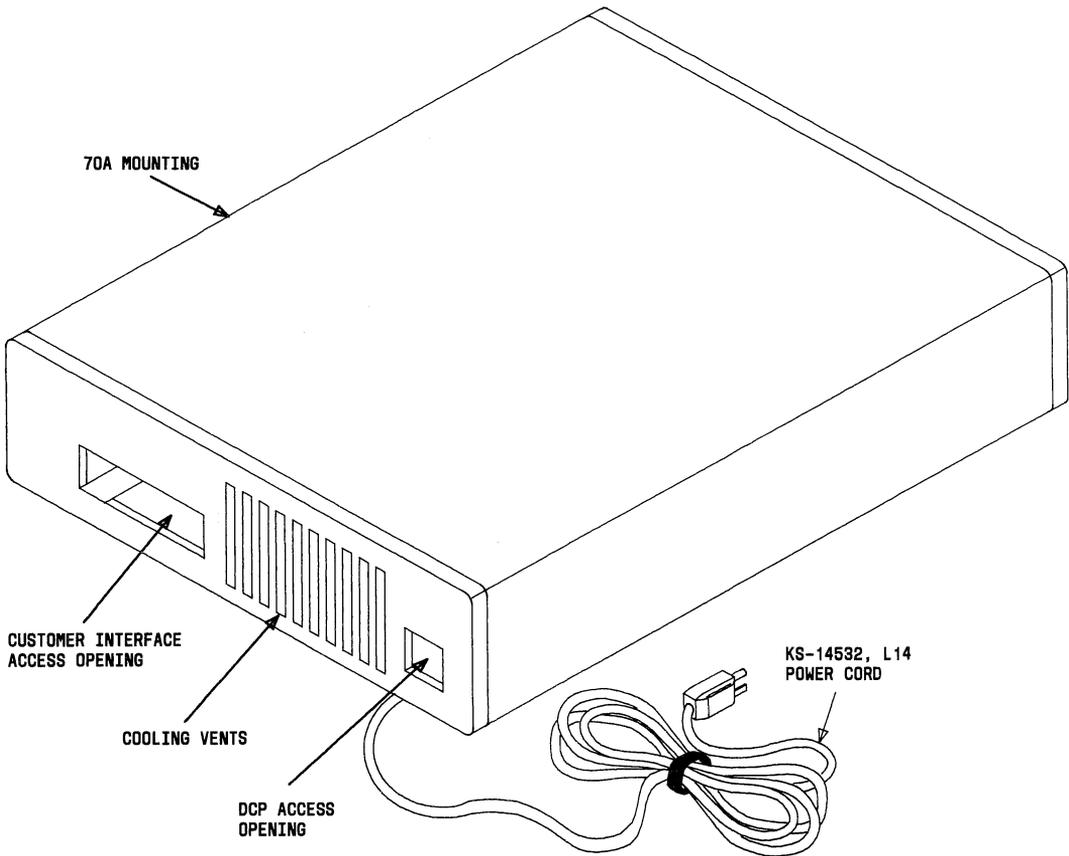

Fig. 5—Rear View of 70A Stand-Alone Mounting
2.10 The 70A stand-alone mounting is equipped with power cord KS-14532, L14; covers on front and rear, cooling vents and two openings, one for EIA connector access and the other for DCP (modular jack) connector access (Fig. 5).